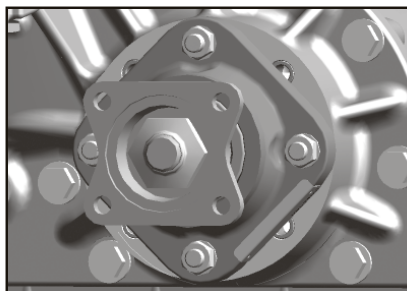

Fig. 5
d. Mount P.T.O. as shown in **Fig. 5** and install flange nuts.